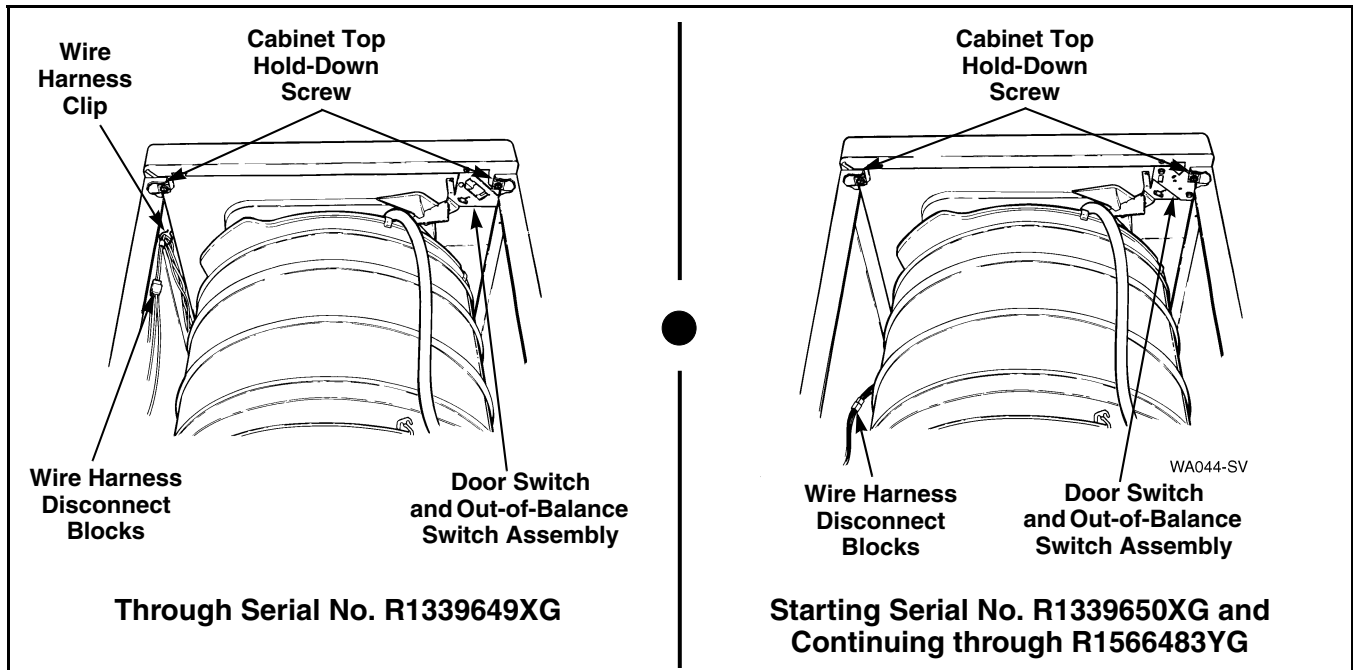

Figure 23
- b. Disconnect motor wire harness from base wire harness at disconnect blocks. Refer to *Figure 23*.
- Remove two cabinet top hold-down screws. Refer to *Figure 23*.
- Disconnect wire harness at disconnect blocks. Refer to *Figure 23*.
- Through Serial No. R1339649XG, remove wire clips holding wire harness and pressure hose to top flange of left side of washer cabinet. Refer to *Figure 23*.